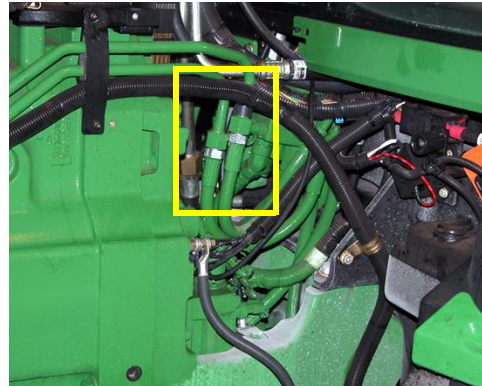

Figure 3b: Junction of steel and rubber steering line sections
- b. Locate the junction of the steel and rubber sections of the steering lines (Figure 3b).